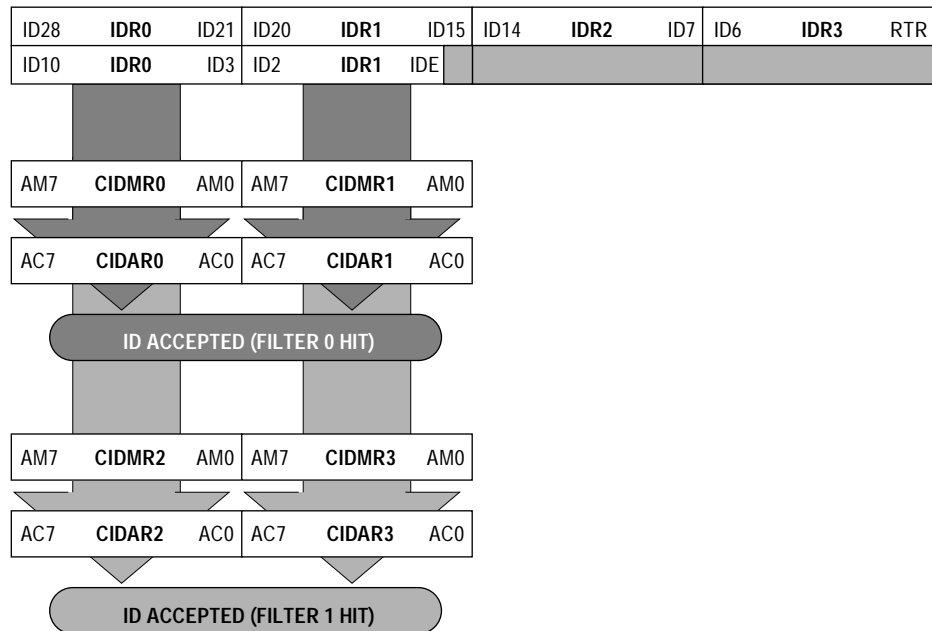

Figure 4. Dual 16-Bit Maskable Acceptance Filters
- Two identifier acceptance filters, each to be applied to a) the 14 most significant bits of the extended identifier plus the SRR and the IDE bits of CAN2.0B messages, or b) the 11 bits of the identifier plus the RTR and IDE bits of CAN 2.0A/B messages. **Figure 4** shows how the 32-bit filter bank (CIDAR0-3, CIDMR0-3) produces filter 0 and 1 hits.